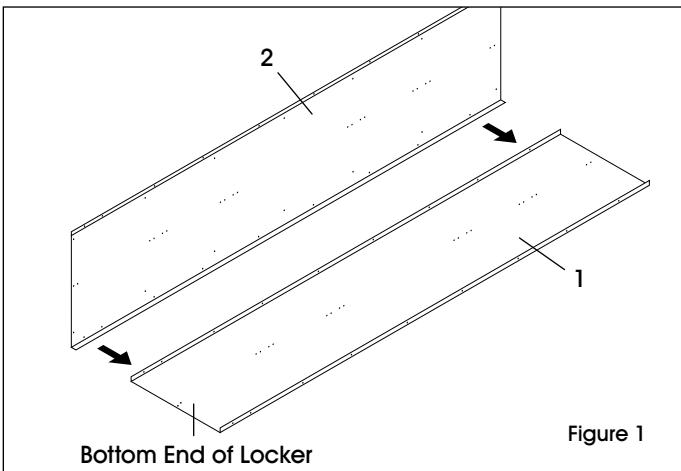

Figure 1
1. Place back (1) on a protected flat surface so that the flanges face upward.
2. Bolt side (2) to back (1) so that side flange fits around back (use 8 bolts and nuts - nuts to the inside). Do not use bottom two holes; these will be used for attaching legs in step 8. (See Figure 1)